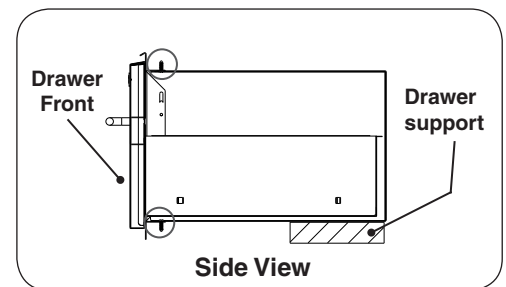

Fig. 2-4 Drawer Installation (Side View)
1. In order to properly support the weight of your drawer, it is necessary to provide a secure, level surface in the rear of the unit (see Fig 2-4). This may be accomplished by using bricks, 2 X 4's, etc. Be sure that the height of this rear support is $\frac{1}{8}$ " higher than that of the front opening support, so that your drawer sits level.